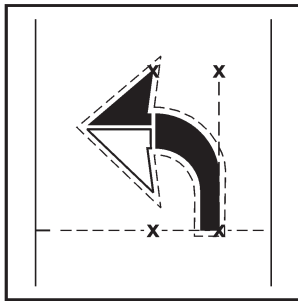

Figure 15
- Begin to remove the liner from the base portion of the top of the arrow (shaded portion) and place it against the center section of the arrow (see Figure 15).